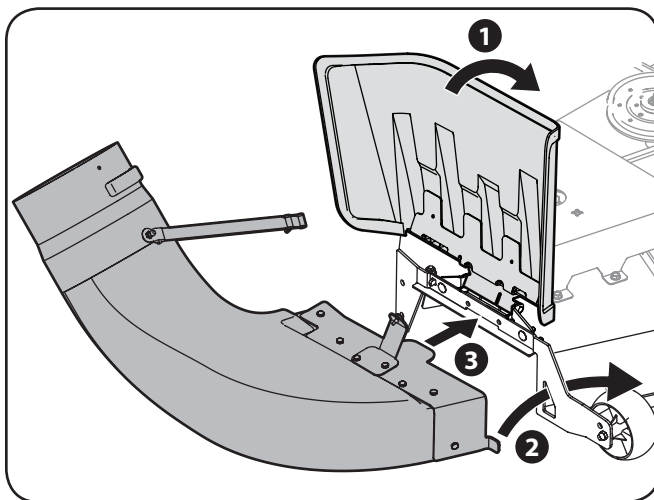

Figure 4-19
3. Raise the chute deflector (1 in Figure 4-19) on the deck and hold it while you position the discharge chute over the chute opening.
4. Insert the end of the discharge chute top mounting bracket into the hole provided on the cutting deck as detailed in 2 of Figure 4-19.
5. Pivot the discharge chute rearward inserting the tab in the discharge chute top mounting bracket into the space provided between the mowing deck and the discharge chute hinge, as shown in 3 of Figure 4-19.